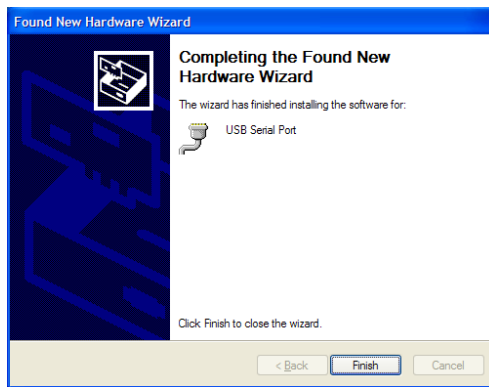

Figure 12
9. Wait a few moments while Windows downloads and installs the drivers from Microsoft. Then click on “Finish”. (Figure 12)